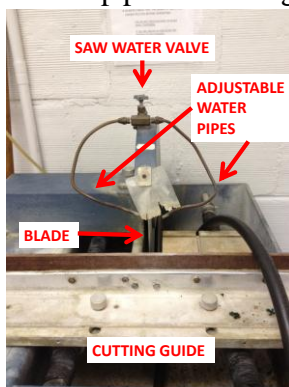

Figure 4. Saw components. Be sure that saw blade slides nicely into slot of cutting guide (not shown here).
8. Turn on the two water valves attached to the beam across from the saw (Figure 1A). If water does not flow, open the water valve on the saw (Figure 4).